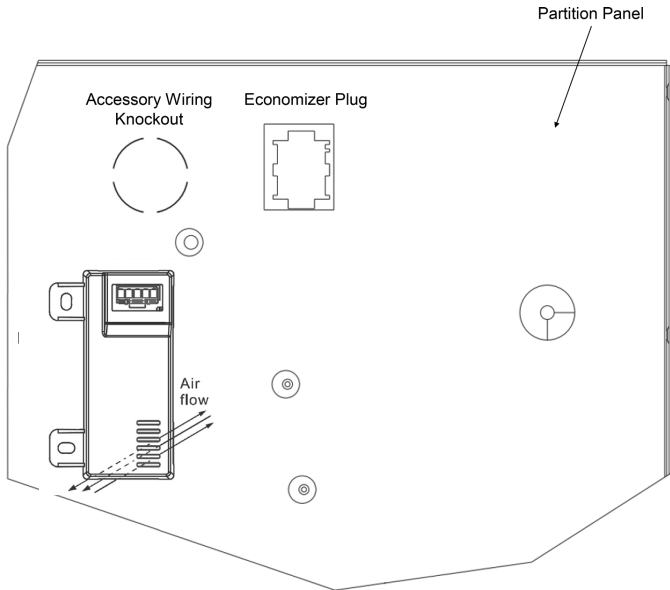
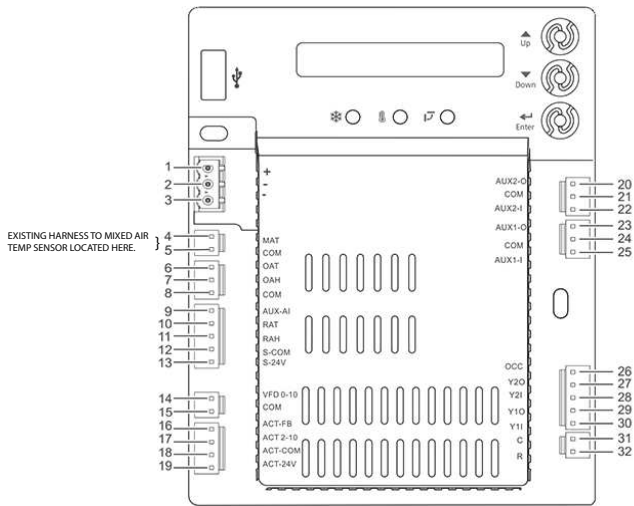

FIGURE 19
FIGURE 20
5. Some gas units may not have a factory installed mixed air temperature harness in the blower compartment. In this case, install the mixed air temperature sensor in the return air compartment (see Figure 19 for mounting location). Use the 2 cutting screws provided with the kit to mount the sensor. Disconnect the existing mixed air temperature sensor wire harness from the Climatex ECO control module. Locate the mixed air temperature wire harness packaged with the sensor and connect one end to the mixed air temperature sensor and the other end to the Climatex ECO module (see Figure 20). Secure the disconnected mixed air temperature harness so that it does not interfere with any moving parts.